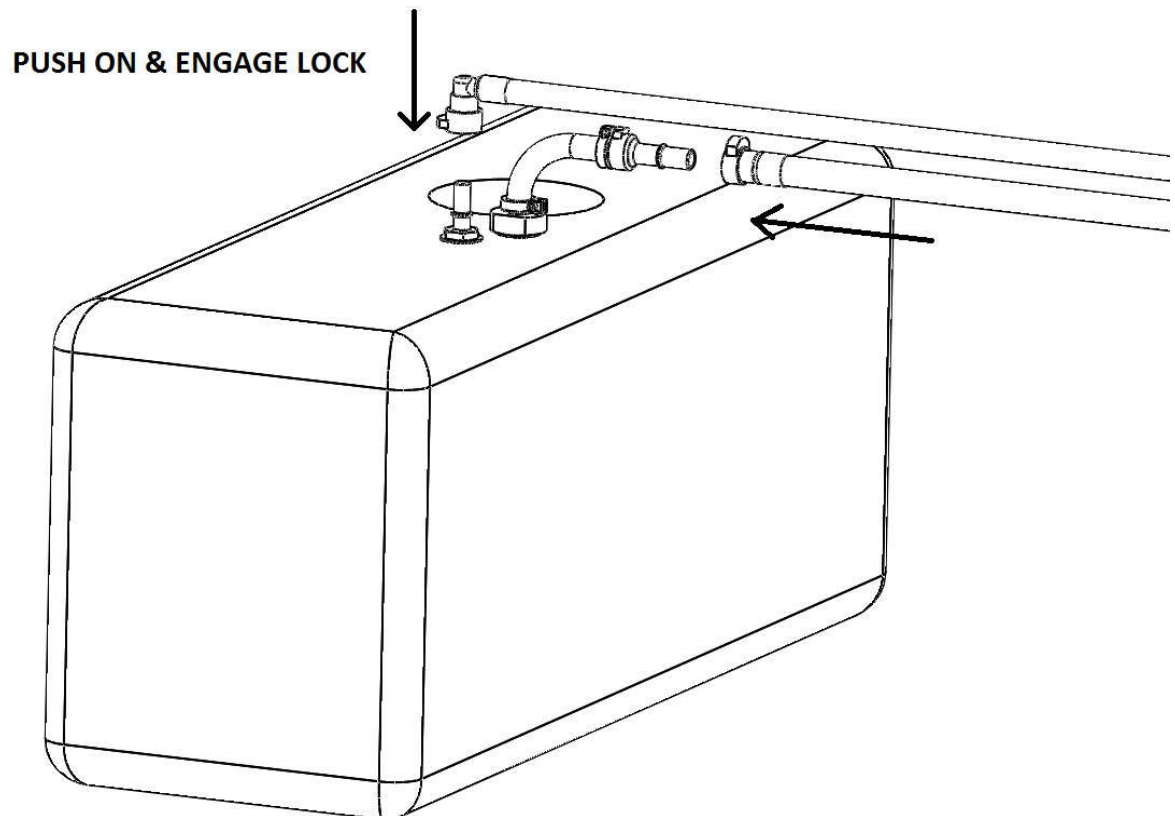

FIGURE 1-13
16. Reinstall the factory pickup assembly noting the position of the fuel level as it was removed. Position the tank under the vehicle and attach the feed and return lines. Raise tank and position it into place. **FIGURE 1-13**